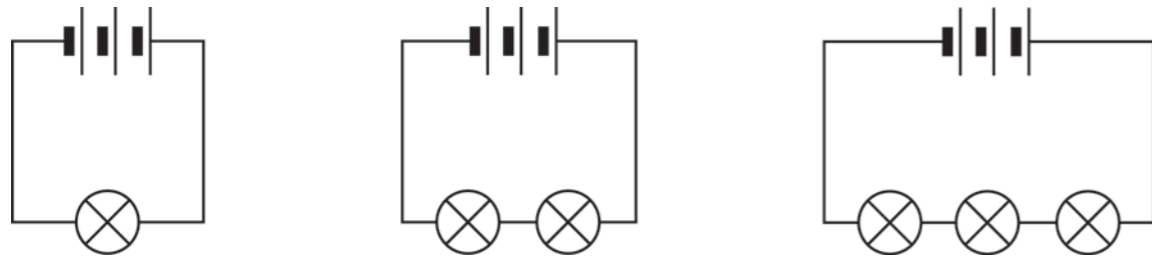

Figure 3: Bulbs connected in series
1. The diagrams in Figure 3 show you the circuits you are going to build. Before you build them, write down your predictions of how bright the bulbs will glow on copies of the diagrams, using brackets as you did before. Then connect the components and test your predictions.